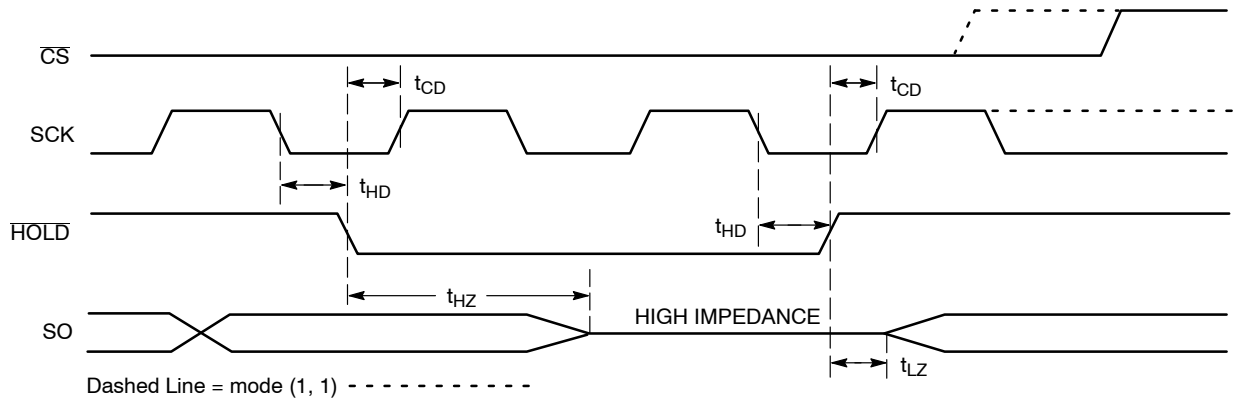

Figure 11. $\overline{\text{HOLD}}$ Timing
The $\overline{\text{HOLD}}$ input can be used to pause communication between host and NV25010/20/40. To pause, $\overline{\text{HOLD}}$ must be taken low while SCK is low (Figure 11). During the hold condition the device must remain selected ($\overline{\text{CS}}$ low). During the pause, the data output pin (SO) is tri-stated (high impedance) and SI transitions are ignored. To resume communication, $\overline{\text{HOLD}}$ must be taken high while SCK is low.